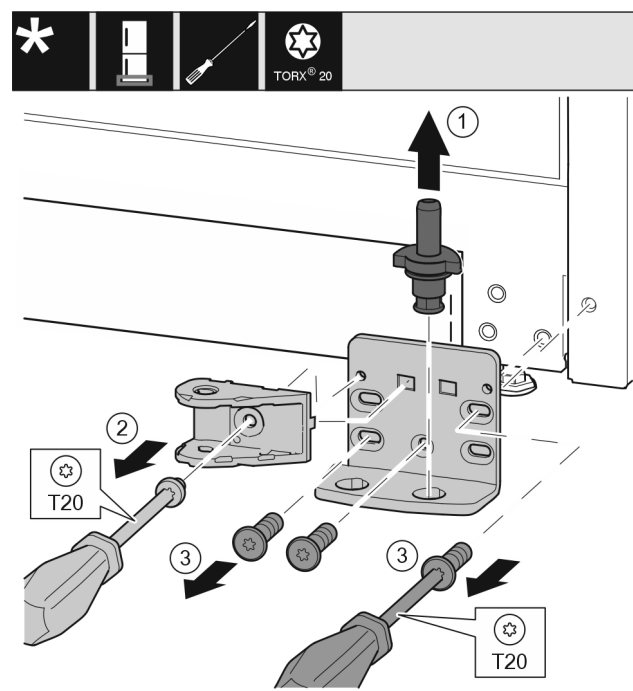

Fig. 34
- ▶ Lift the bearing pin completely upward and pull it out. Fig. 34 (1)
- ▶ Take out the screw with a T20 screwdriver and take off the soft stop connection. Fig. 34 (2)
- Take out the screws with a T20 screwdriver and take off the bearing bracket. *Fig. 34 (3)*